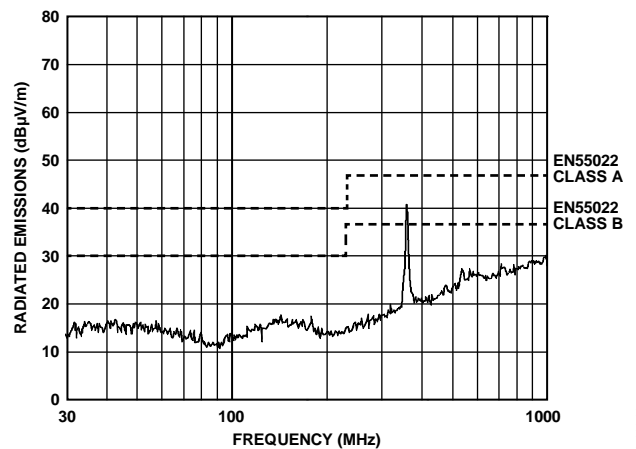
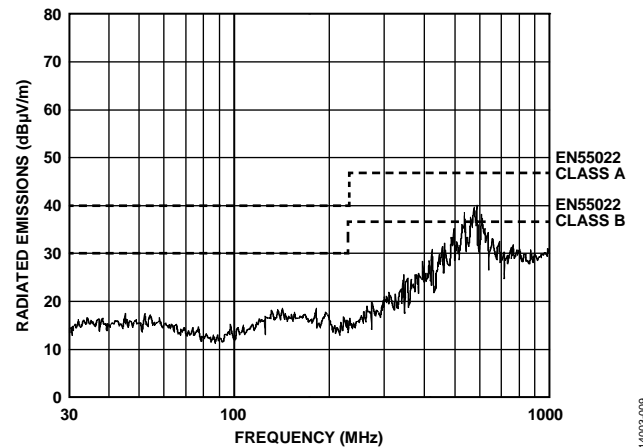

Figure 4. Horizontal Scan from 30 MHz to 1000 MHz (Corresponds to Worst Case for Table 3)
Figure 9. Horizontal Scan from 30 MHz to 1000 MHz (Corresponds to Worst Case for Table 8)
The EVAL-ADM2582EEMIZ and EVAL-ADM2587EEMIZ evaluation boards are configured and tested with 3.3 V V_{CC} or 5.0 V V_{CC} power supplied to the ADM2582E and ADM2587E devices, with the power supplied from the ADP667ARZ regulator output to V_{CC} (Pin 8). The ADP667ARZ regulator input is supplied from a standard 9 V battery. All EN55022 radiated emissions testing is performed with 9 V batteries. Testing is performed at 500 kbps clock (ADM2587E) or 16 Mbps clock (ADM2582E), with the clock supplied by the on-board oscillator. The ADM2587E/ADM2582E transceiver is connected in full-duplex mode and the bus pins are loaded with a 54 Ω termination resistor (maximum bus loading). Measurements are carried out in an anechoic chamber at 10 m from 30 MHz to 2 GHz. Figure 4 to Figure 9 show the results of the worst case horizontal scans and Table 3 to Table 8 show the tabulated quasi-peak (QP) results.